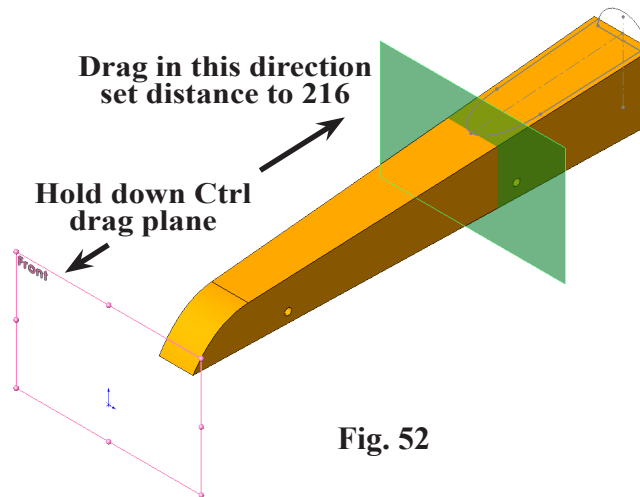

Fig. 52
Step 3. **Ctrl drag** Front plane in drawing towards rear of body and release, **Fig. 52**. To Ctrl drag, hold down Ctrl and drag plane to rear.